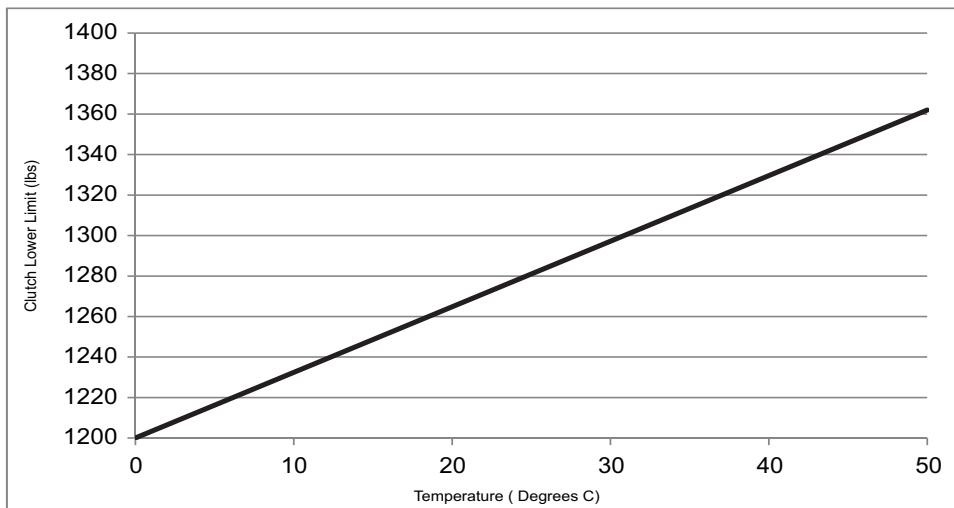

Figure 1. Lower limit for the 600 lb capacity hoists
- a. If the test results indicate a value above the acceptable lower limits per Table 2, Figure 1 of the Goodrich ASB 44301-10-18, Revision 6, proceed with step 3.
- b. If the test results indicate a value below the acceptable lower limit per Table 2, Figure 1 of the Goodrich ASB 44301-10-18, Revision 6, remove the hoist from service before the next hoist operation.
42315	Table 2/Figure 1
42325	Table 2/Figure 1
44301-10-4, -7, -9, -12, -13	Table 2/Figure 1
44311	Table 2/Figure 1
44312	Table 2/Figure 1
44314	Table 2/Figure 1
44315	Table 2/Figure 1
44316	Table 2/Figure 1
44318	Table 2/Figure 1